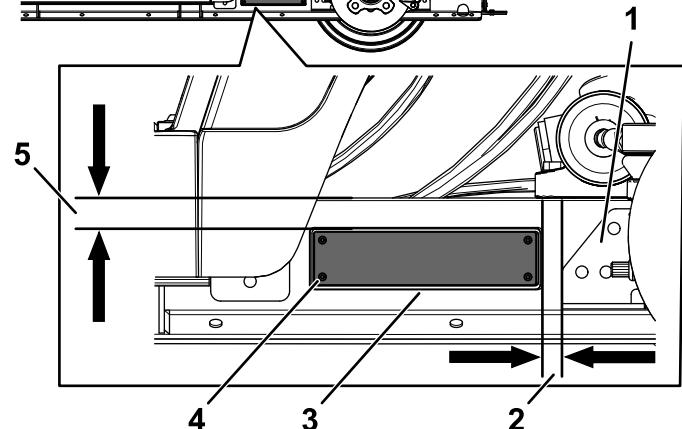

Figure 4
1. Install the serial plate using 4 pop rivets (3 x 10 mm) in the location shown in Figure 4.